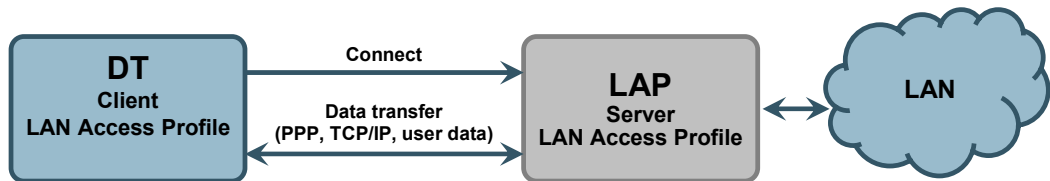

Figure 9 – LAN Access Profile Roles
The second profile what we will have a closer look into is the LAN Access Profile, or LAP for short. It allows a device to access a LAN (typically an Internet network) through a gateway (actually a server). LAP has defined the roles LAN Access Point (LAP) and Data Terminal (DT). The LAP acts like a gateway and provides the actual LAN access, and the DT device uses the services provided by LAP. *Figure 9* illustrates the roles. To enable